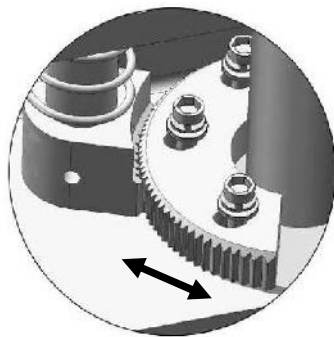

Fig. 34
3. Adjust the arm locks as shown by arrow direction (See Fig. 34)